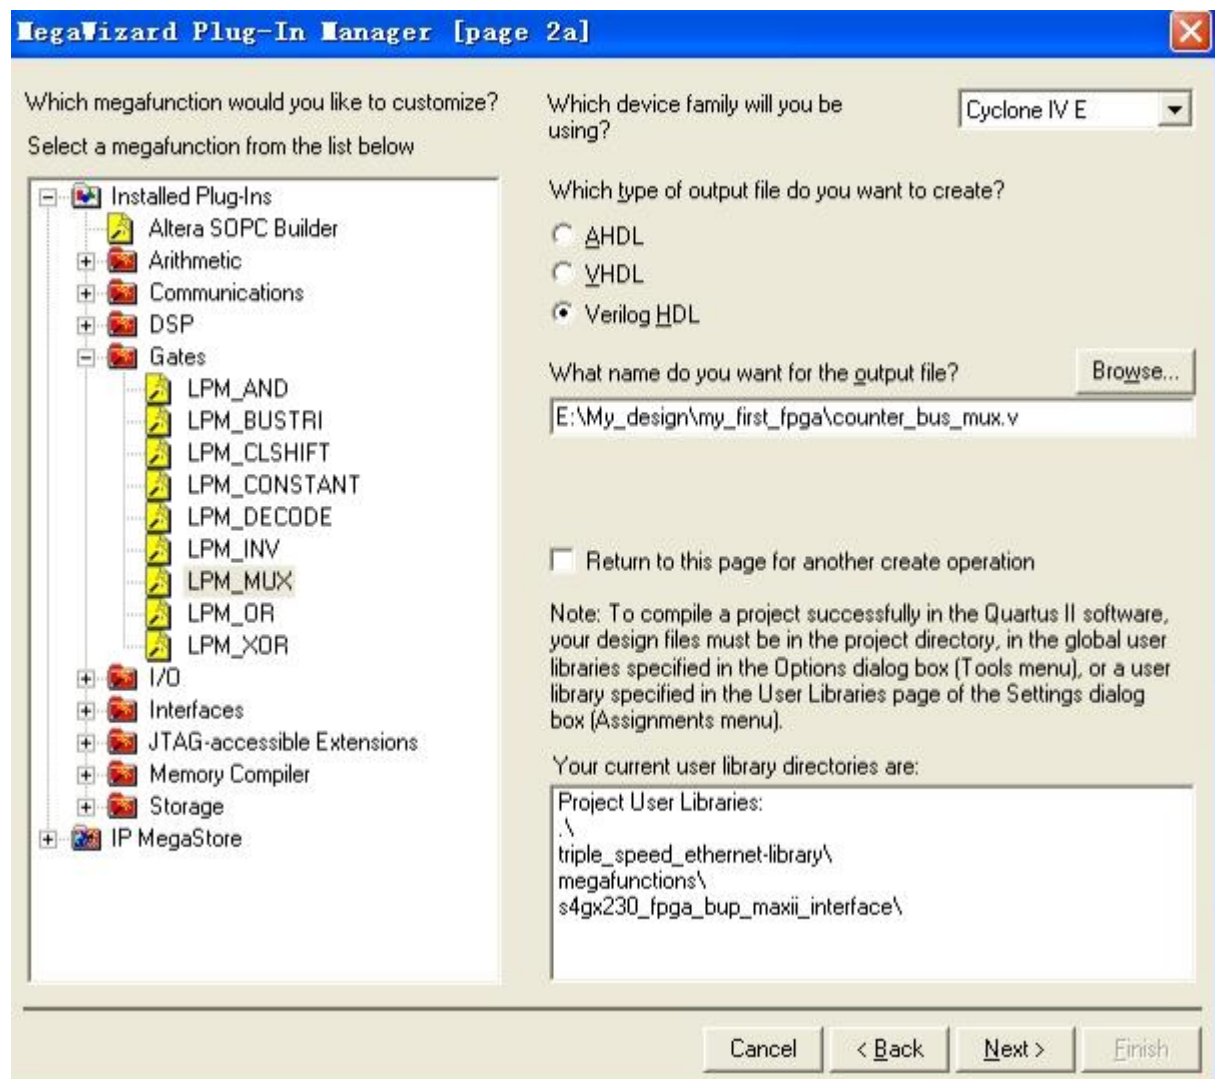

Figure 3-22 Selecting lpm_mux
5. Choose the device family that corresponds to the device on the development board you are using, choose Verilog HDL as the output file type, and name the output file `counter_bus_mux.v` (see Figure 3-22).